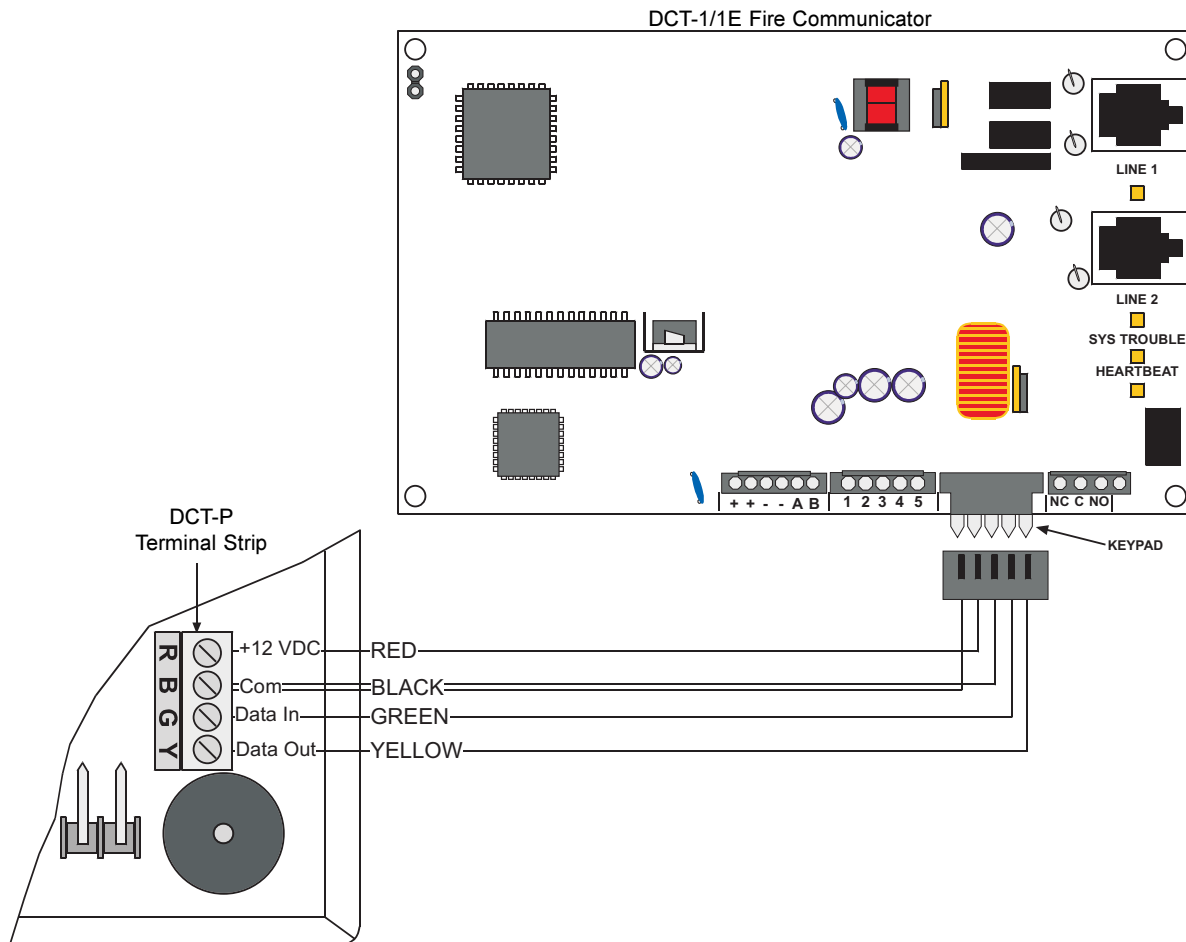

Figure 14: Connecting a Keypad to the DCT-1/1E
A DCT-P LCD Remote Keypad can be used to operate the DCT-1/1E Communicator. Remove the cover from the DCT-1/1E case and plug the molex connector from the DCT-P onto the connector pins on the DCT-1/1E board as shown in Figure 14.
- 2) Use the wire connector supplied with the DCT-1/1E to connect the DCT-P to the DCT-1/1E. See Figure 14.